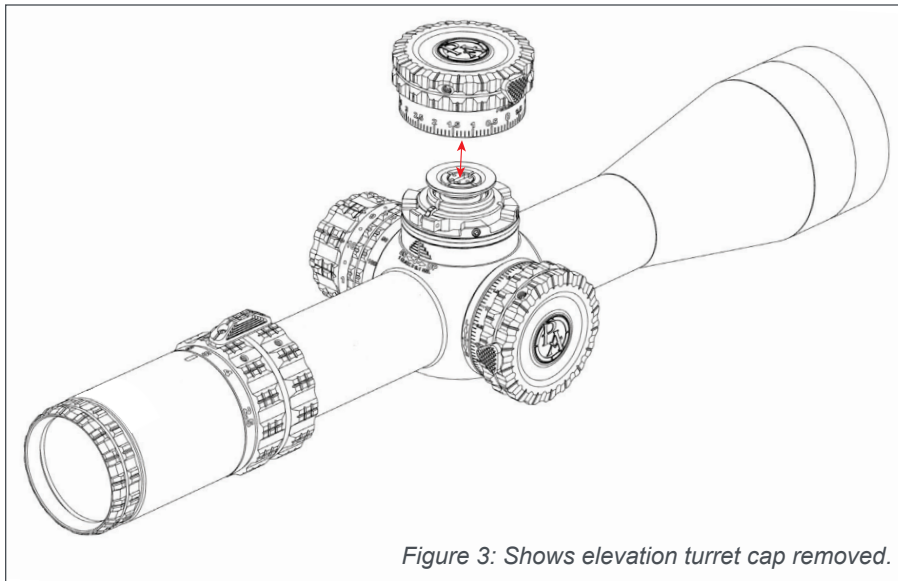

Figure 3: Shows elevation turret cap removed.
b. Remove the turret cap assembly by pulling straight up on the turret cap as shown in Figure 3.
- Remove the turret cap assembly by pulling straight up on the turret cap as shown in Figure 3.